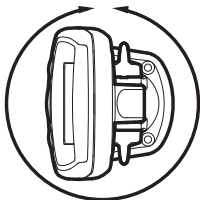

Figure 1
- Your PiranhaMAX uses a tilt and swivel mounting base. The mounting area should allow sufficient room for the unit to pivot and swivel freely, and for easy removal and installation (Figures 1 and 2).